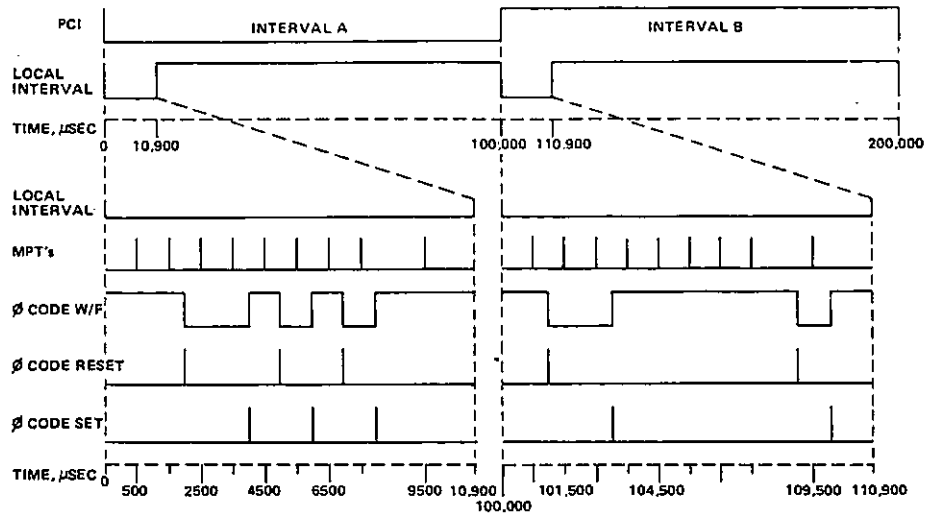

Figure 4.1. Master Station Time-Ladder Diagram
4.4 Time-ladder Diagrams. Figures 4.1 and 4.2 are the time-ladder diagrams for master and secondary stations, respectively. The signals are received by the TCS equipment from the Loran Timing Set(s). The Local Interval starts 500 μsec before the first MPT and ends 1,400 μsec after the last MPT. The master station's Local Interval is 10,900 μsec long, and the secondary station's Local Interval is 8,900 μsec long. Phase Coding of the MPTs occur between the Phase Code Reset (starts the negative \emptyset code) and Phase Code Set (starts the positive \emptyset code) pulses.